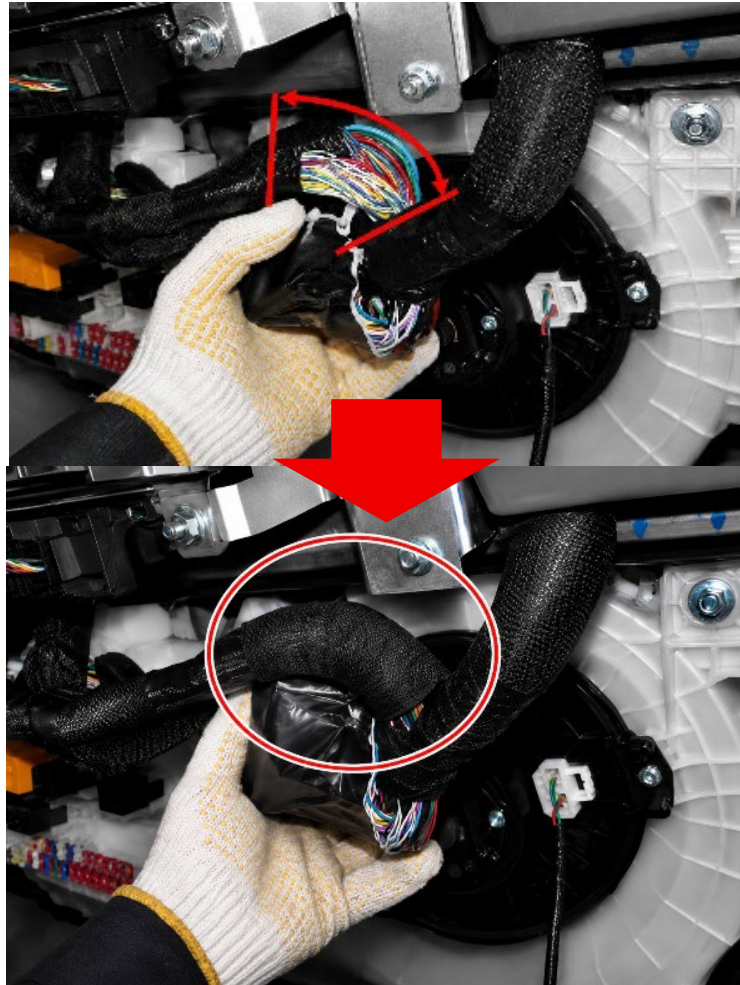

Figure 46
42. Location [A]: Wrap the Tesa tape from the branch root to the end of the factory harness braided sleeving as shown. (See Figure 46.)